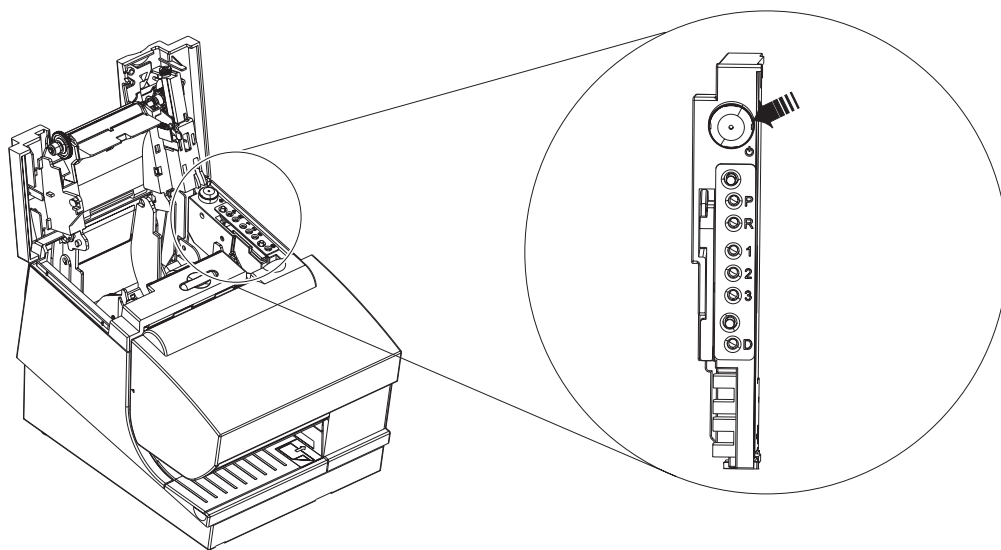

Figure 22. Pressing the power button
1. Open the paper cover (**C**) and press the power button to power on the printer. The power button comes with a cover over it, so it may be necessary to use a paper clip or similar item to push the button through the cover. See Figure 22 for the location of the power button.